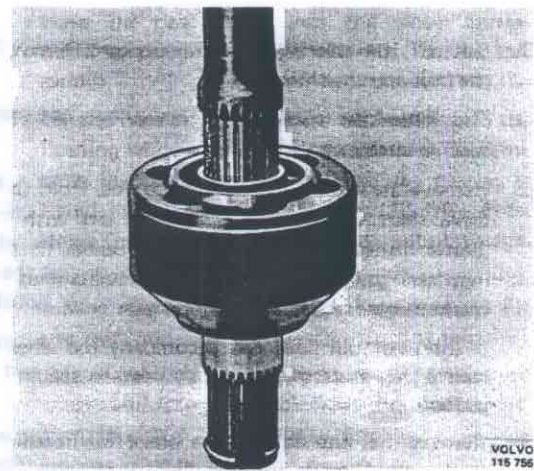

Fig. 46-93. Driving in the drive shaft
4. Place the shaft pin on a flat surface, Fig. 46-93, and fit the drive shaft in the flange. Knock on the rear end of the drive shaft so that it glides into the flange.